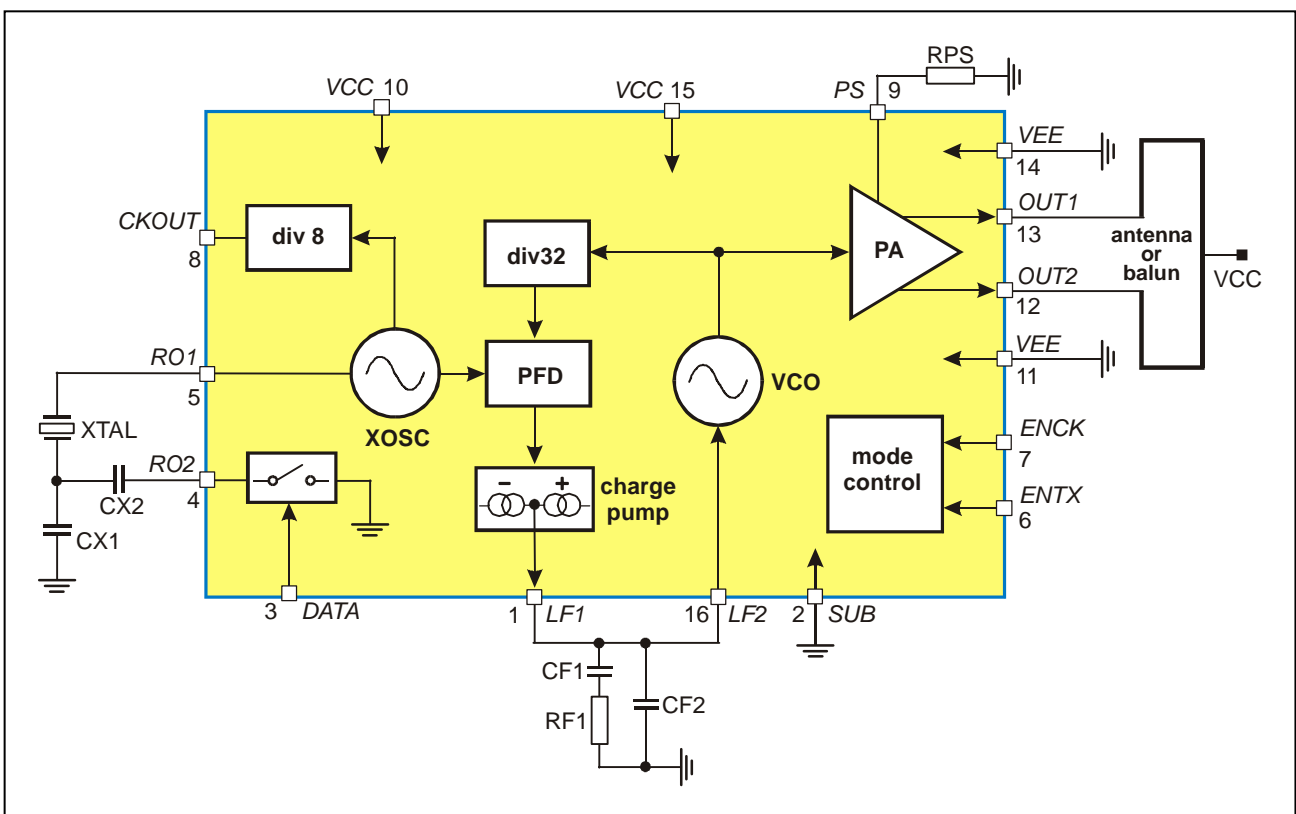

Fig. 1: Block diagram with external components
As depicted in Fig.1, the TH7108 transmitter consists of a fully integrated voltage-controlled oscillator (VCO), a divide-by-32 divider (div32), a phase-frequency detector (PFD) and a charge pump. An external loop filter at pin LF determines the dynamic behavior of the PLL and suppresses reference spurious signals. The VCO's output signal feeds the power amplifier (PA). RF signal power P_o can be adjusted in six steps from $P_o = -15$ dBm to +1 dBm either by changing the value of resistor RPS or by varying the voltage V_{PS} at pin PS. The open-collector differential output (OUT1, OUT2) can be used to either directly drive a loop antenna or to be converted to a single-ended impedance by means of a balanced-to-unbalanced (balun) transformer. For maximum available output power, the differential output should be matched to a load of about 1 k Ω . Bandgap biasing ensures stable operation of the IC at a power supply range of 2.2 V to 5.5 V.